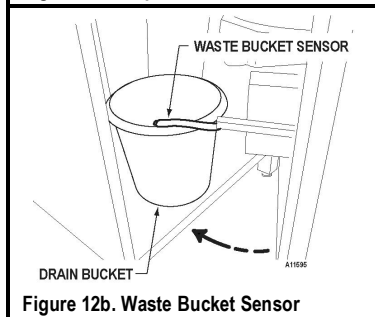

Figure 12b. Waste Bucket Sensor
3. **IMPORTANT:** Place the Overflow Bucket Sensor inside the drain bucket before closing the door. See **Figure 12b**.